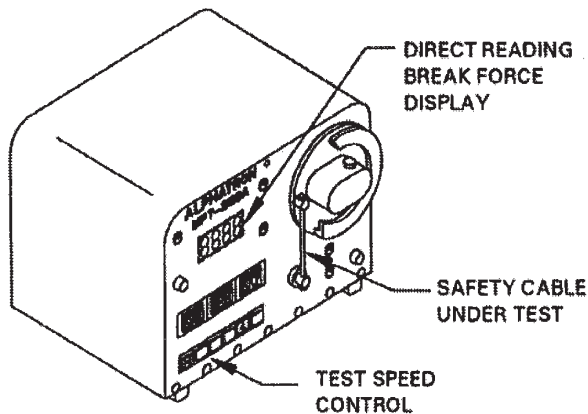

Figure 7-27. Electronic Safety Cable Pull Tester
i. Tool calibration verification with an electronic tester. It may be required in some applications to use an electronic pull tester to test safety cable to destruction. If this is required, the tester (Figure 7-27) should have digital readout capability, and a two (2) inch/minute pull rate.